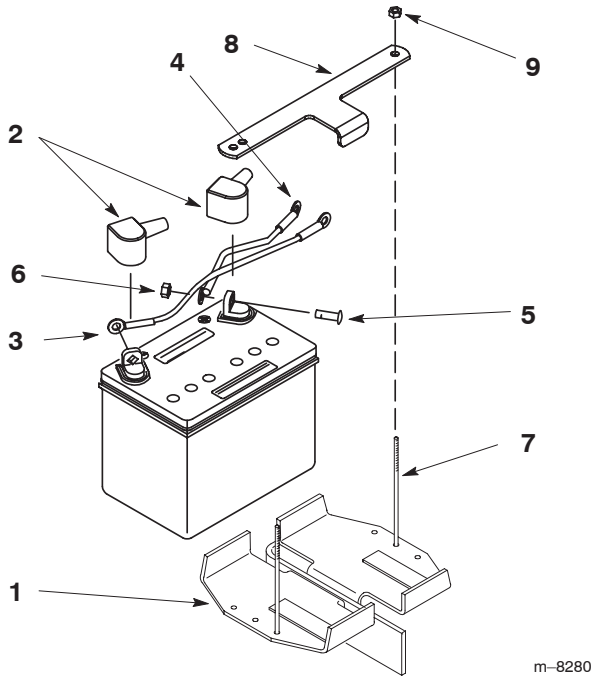

Figure 7
4. Position battery onto holder with terminal posts towards the engine (Figure 7).
- Mount battery to holder with 2 support rods, a battery clamp and 2 locknuts (1/4 inch). Position support rods in mounting holes (Figure 7). Tighten locknuts so battery is held securely in position and will not slide. **Do Not overtighten.**